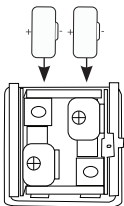

Fig. 10
- Unplug timer before replacing batteries. To remove the batteries, carefully pry the battery holder up with a small flat screwdriver. Install the new batteries as shown in Fig. 10. Firmly place the battery holder into the switch.